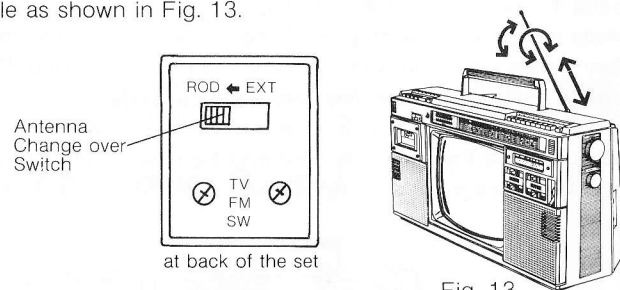

Fig. 13
1. FM/VHF/UHF/SW Rod Antenna In a normal reception area, the FM/VHF/UHF/SW rod antenna will deliver a sharp picture and clear sound. Set the antenna changeover switch to the "ROD" position, then extend the antenna. Adjust the length, direction and angle as shown in Fig. 13.